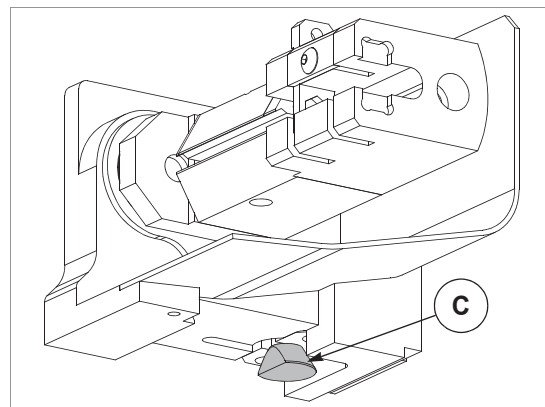

Fig. 60
- 2) Fit the K2 tailstock into its seat, slightly inclined to the left, with the fixing cam (C) (fig. 60) aligned with the slide runners and secure by tightening the screw (W1) (fig. 67, page 48) with the (T4) wrench.